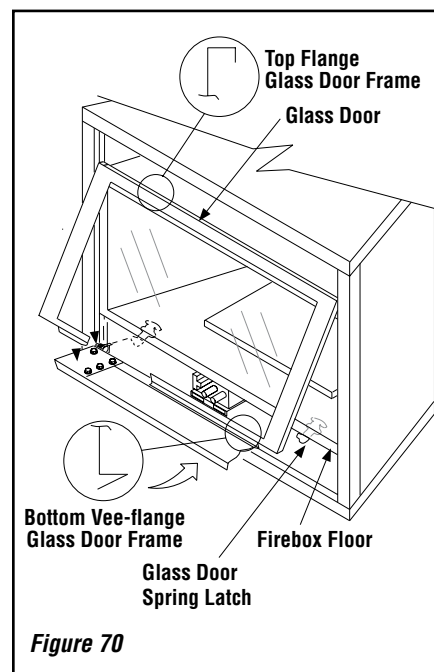

Figure 70
Removing Glass Enclosure Panel (see *Figure 70*)
Locate the two (2) glass door spring latches at the top of the control compartment (see *Figure 70*). Pull out each spring latch until it disengages from the door frame bottom vee-flange. Remove the door by tilting it outward at the bottom and lifting it up. Set the door aside, taking care to protect it from inadvertent damage.
Installing Glass Enclosure Panel (see *Figure 70*)
Position the door in front of the firebox opening with the bottom of the door held away from the fireplace (*Figure 70*). Hook the top flange of the door frame over the top of the firebox frame.